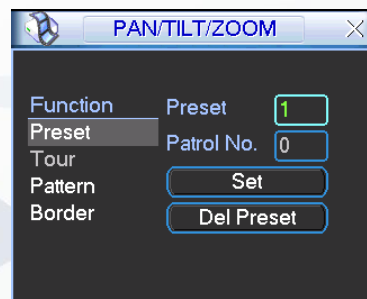
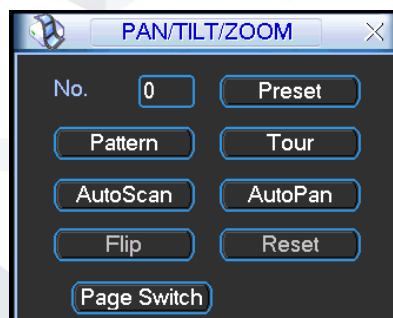

Figure 4-45
Figure 4-46
In Figure 4-42, please click the “set” button. The interface is shown as below. See Figure 4-45. Here you can set the following items:
In Figure 4-42, click page switch button, the interface is shown as in Figure 4-46.
- The following setups are usually operated in the Figure 4-42, Figure 4-45 and Figure 4-46.
In Figure 4-45, click preset button and input preset number. The interface is shown as in Figure 4-47.
In Figure 4-46, please input preset number in the No. blank, and click preset button.
In Figure 4-45, input patrol (tour) number in the No. blank and click patrol button
In Figure 4-45, click pattern button and then click "begin" button. The interface is shown as in Figure 4-49. Then you can go to Figure 4-42 X to modify zoom, focus, and iris.
In Figure 4-46, click “Auto Scan” button, the system begins auto scan. Correspondingly, the auto scan button becomes Stop button. Click stop button to terminate scan operation.
In Figure 4-46, click page switch button, you can see an interface is shown as below. See Figure 4-51. Here you can set auxiliary function. The aux value has relation ship with the Aux button of the decoder.